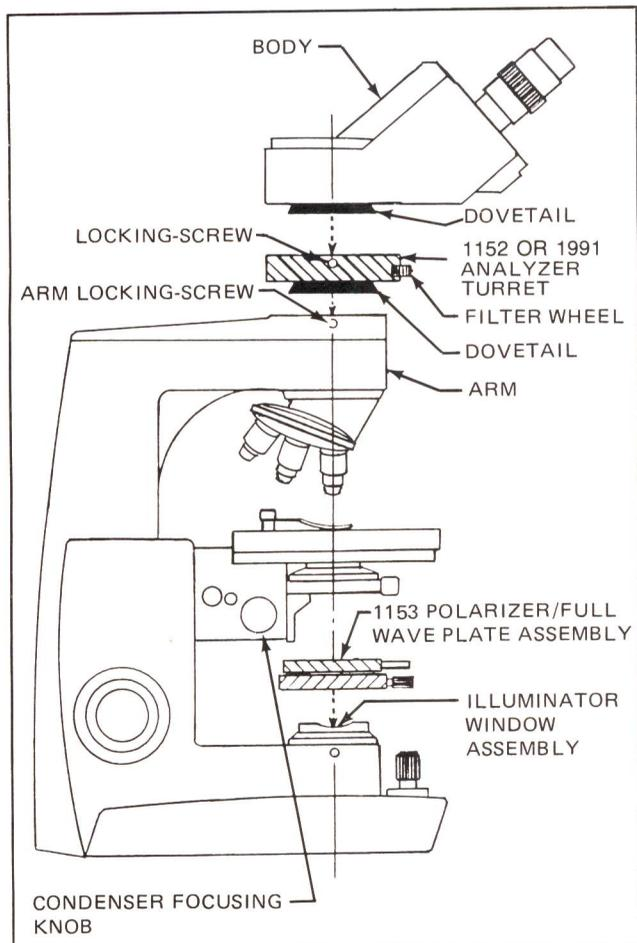

Figure 1.
1. Remove Body and place Turret on stand as shown in Figure 1.
2. Orient turret so that Filter Wheel faces front of microscope (Figure 1). Tighten Arm Locking Screw.
2. Place 1153 Polarizer on Illuminator Window Assembly (Figure 1).